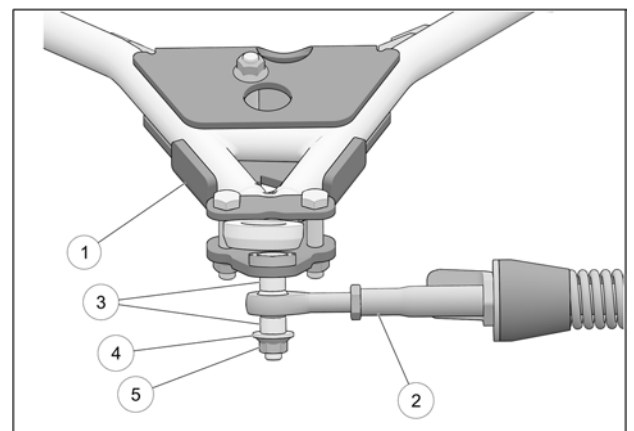

Fig. 17
- Attach the stabilizing rod (**2**) to the anchor bracket (**1**), using the two spacers (**3**), washer (**4**), and nut (**5**). Torque to 70 N•m [52 lb•ft]. Refer to Fig. 17